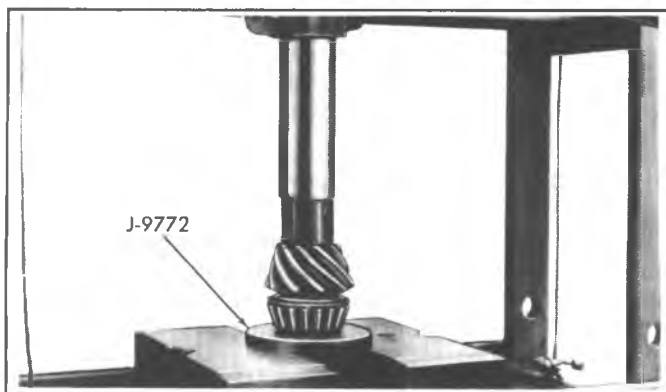

Fig. 4C-10--Installing Inner Pinion Core and Roller
- Install dial indicator on carrier with indicator button contacting back of ring gear (Fig. 4C-8).